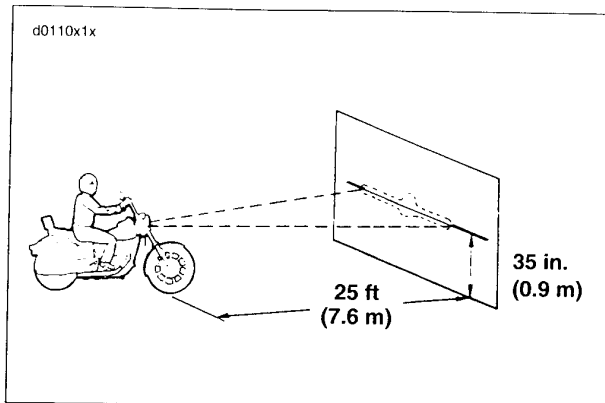

Figure 1-66. Checking Headlamp Alignment
3. See Figure 1-66. Position motorcycle 25 ft (7.6 m) away from a screen or wall. Measure the distance from directly below the front axle to the base of the screen/wall.